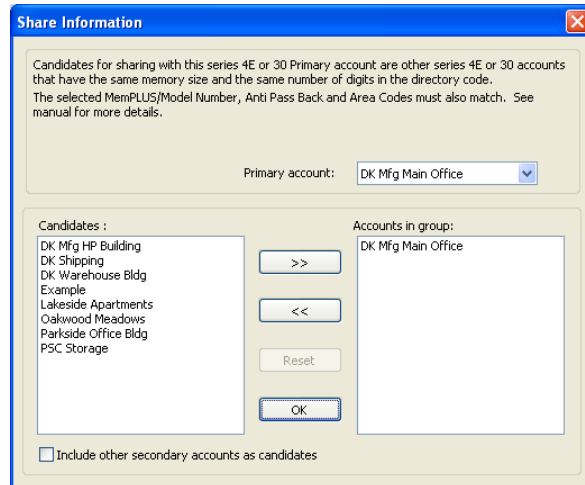

Figure 9
1. From the accounts screen, click the account name that is the primary account, then click the SHARE INFO icon in the tool bar. The share info screen will appear with the primary account listed in the accounts group (Fig 9). In the example, DK Mfg Main Office was selected as the primary account. Notice that this account name is shown as the primary account in the upper right hand corner of the share information window, and that this account is listed in the "Accounts In Group" window on the right side of the screen. To change the primary account, click the arrow button on the primary account window, then scroll up or down and select a new primary account.